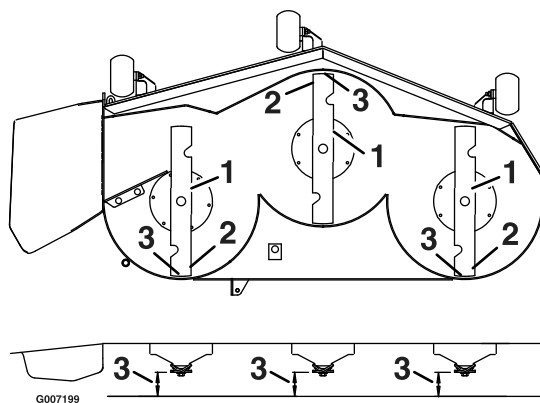

Figure 45
1. Rotate the blades until the ends face forward and backward (Figure 45). Measure from a level surface to the cutting edge, of the blades. Note this dimension.